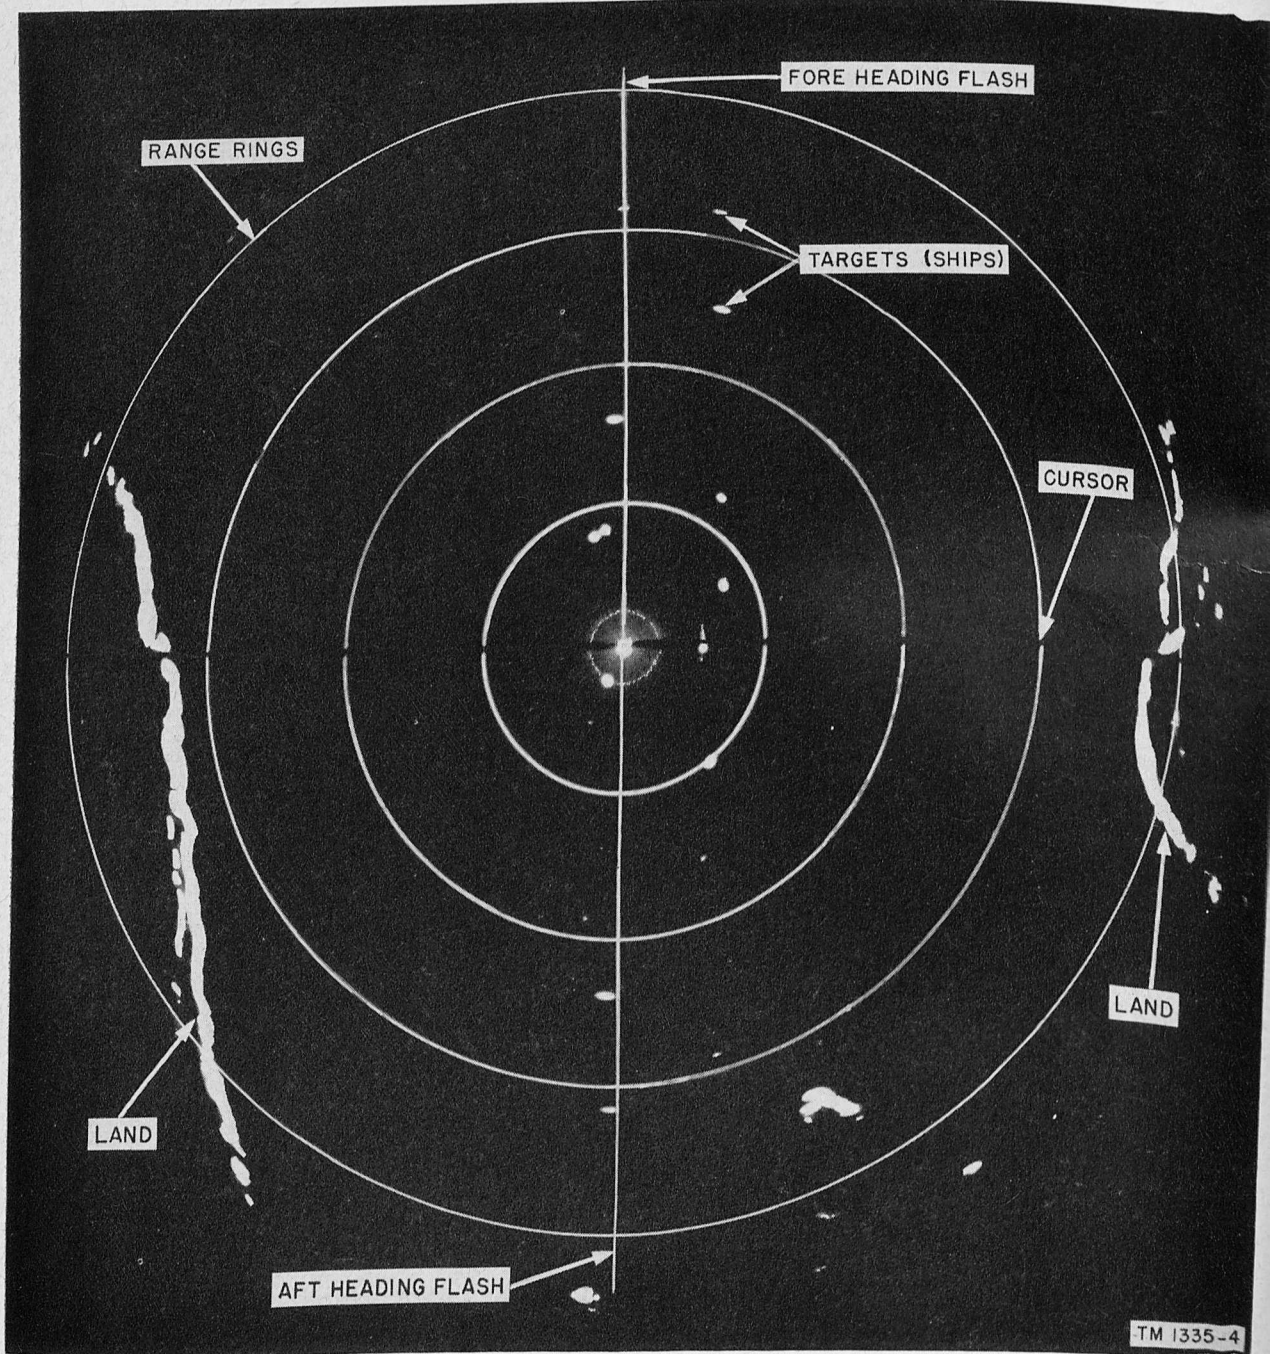
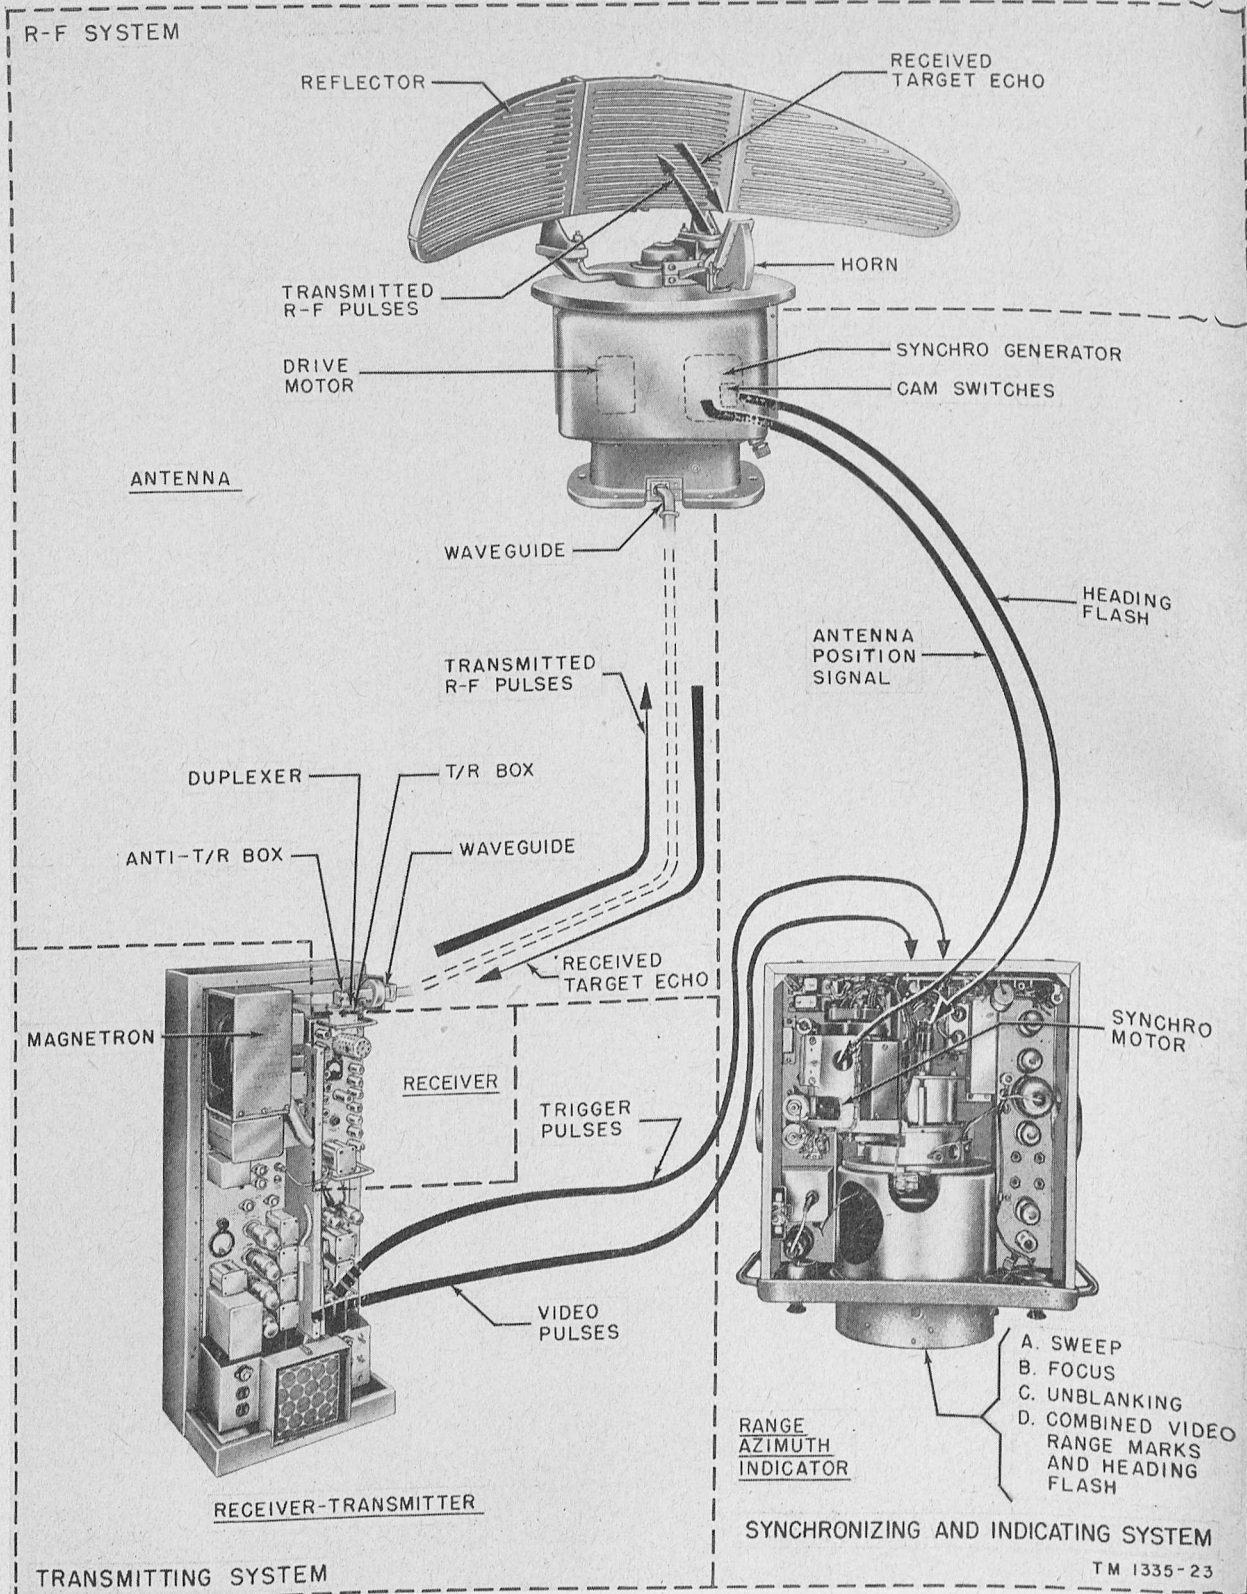

Figure 19. Typical PPI presentation.
Figure 20. Radar Set AN/SPN-11(*), system breakdown.
a. Information concerning the range and azimuth of targets within 20 nautical miles of the radar set is displayed on a cathode-ray tube. This tube is called the PPI and produces a radar map of the surrounding area (fig. 19). A fixed azimuth scale from 0° to 360° , calibrated in 2° divisions, is mounted in front of the PPI scope. Zero on
sweep, and it gives an instantaneous indication of the direction in which the antenna is facing. When read against the fixed azimuth scale, the rotating sweep indicates the *relative* bearing of any target through which it is passing. The rotating sweep also produces a series of concentric rings about the center of the PPI face. These rings are *range rings* (fig. 19). Each time the rotating sweep passes through the 0° and 180° calibration points of the azimuth scale, it is intensified sharply. This leaves a visible trace line for a relatively long interval as the rotating sweep continues its rotation. The lines which appear as a result of this intensification are called the fore-heading flash (0°) and the aft-heading flash (180°). A target appears as a bright spot along the rotating
(fig. 20)
tangular voltage pulses to trigger the magnetron (fig. 20). The magnetron delivers .4- μ sec pulses of r-f energy at a prf (pulse repetition frequency) of 1,000 pulses per second. This pulse energy is coupled through a duplexer and waveguide to the antenna.
a. Function. The receiver video output is applied to the PPI scope in the indicator. These signals, together with the rotating sweep and range rings that are developed in the indicator, produce on the PPI scope a map of the surrounding area (fig. 19).
- (1) The indicator (fig. 20) receives the timing (trigger) pulses generated by the master oscillator in the transmitter. This trigger voltage controls the following circuits:
- (2) The indicator also contains the circuits which amplify the video signals from the receiver, the h-v power supply for the PPI tube, and the synchro receiver and gearing for rotating the PPI sweep.
- (3) An electron beam, originating at the cathode of the PPI tube, strikes the fluorescent screen on the inside of the tube face and produces a spot of light. The sharpness of the spot is controlled by adjusting the current through the focusing coil, and the position of the spot is determined by the current through the deflection coil. The deflection current moves the spot from the center to the edge and back to the center of the scope many times per second. This movement produces a line from the center to the edge of the scope. Since the deflection coil is rotated, the line is also rotated and, therefore, a rotating sweep line is produced on the PPI scope. The fluorescence of the screen is of long persistence, so that each portion of the screen remains fluorescent for some time after the rotating sweep has passed over it. A typical target presentation is shown figure 19.
- (4) The synchro system keeps rotation of the PPI sweep in synchronism with rotation of the antenna. The deflection coils in the PPI are coupled to the antenna through the indicator synchro receiver and the antenna synchro transmitter. Consequently, rotation of the antenna results in a corresponding rotation of the deflection coils, and the rotating sweep of the PPI always is positioned so that it indicates the direction of the antenna with respect to the fore-and-aft line of the ship.